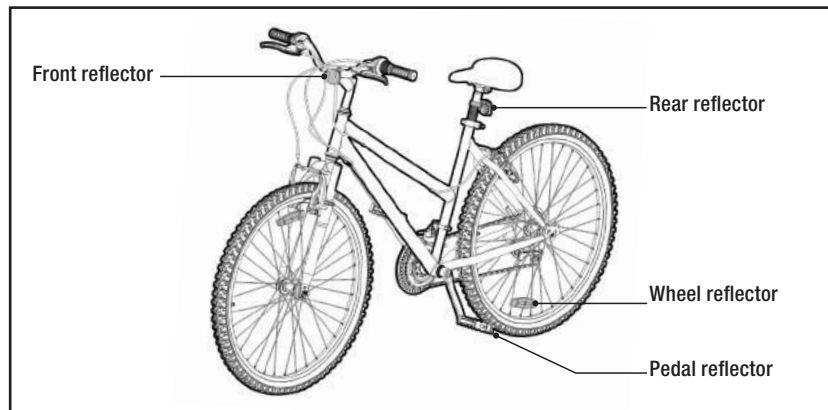
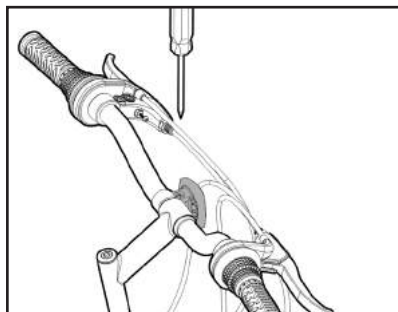

Figure 46
Figure 47
Reflectors are pre-installed on your bicycle on the pedals, wheels, seatpost, and handlebars (see Figure 46). Ensure that the handlebar reflector is pointing straight forward and perpendicular to ground, and position the rear reflector so that it points straight backwards. Use (A) Phillips head screwdriver to loosen and adjust before re-tightening (see Figures 47 & 48).